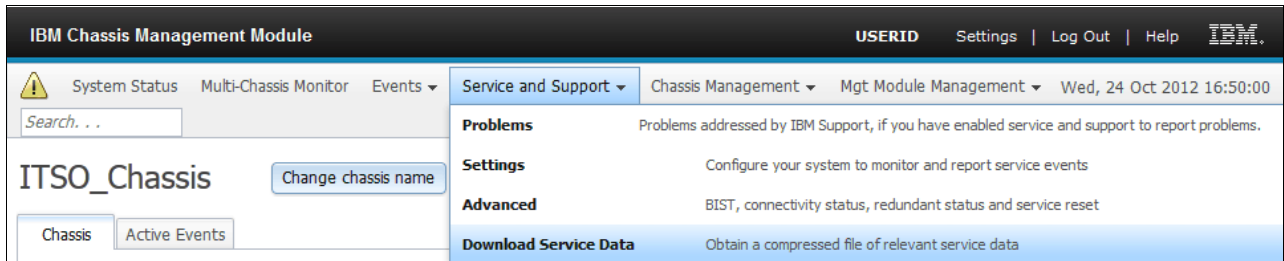

Figure 3-34 CMM - Service and Support - Download Service Data
- ▶ From the top menu, select **Service and Support** → **Download Service Data**, as shown in Figure 3-34.